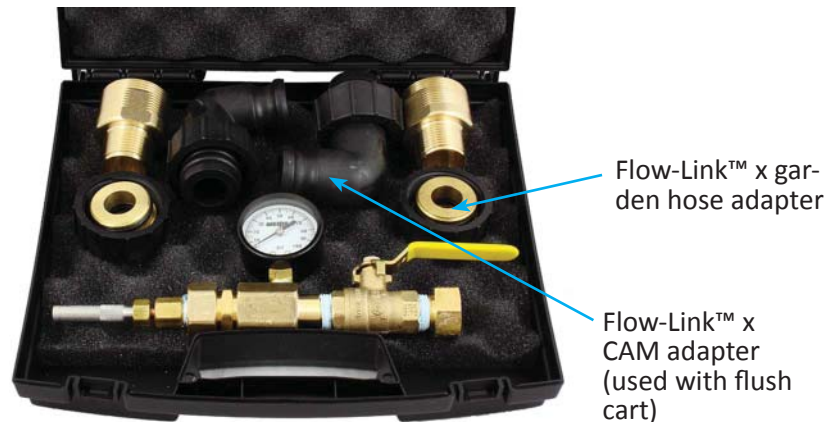

Figure 30: Flush Kit
8. Figure 30 shows the fittings included with the loop flushing kit. This kit provides all of the adapters needed when originally flushing the loop, as well as the fittings needed when replacing a pump.